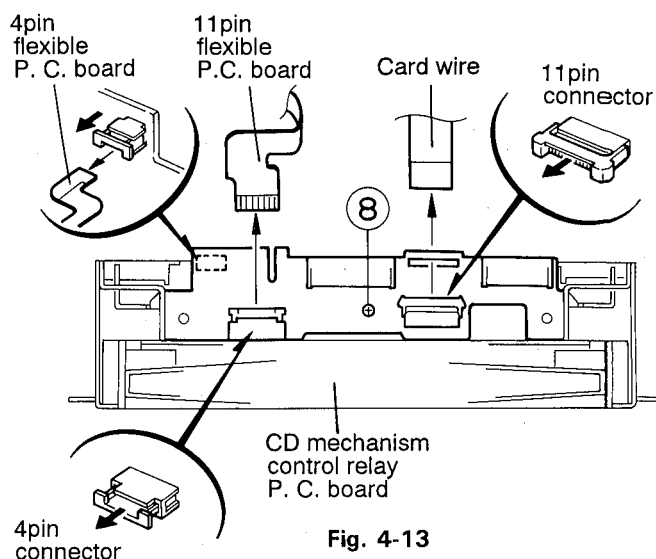

Fig. 4-13
1. While moving the connector in the arrow direction as shown in Fig. 4-13, remove the 11, 4 pin flexible P.C. boards so carefully as not to damage or bend the boards.
2. From the CD mechanism control relay P.C. board, remove the card wire in the arrow direction (See Fig. 4-13).
3. Remove the screw (8) retaining the CD mechanism control relay P.C. board (See Fig. 4-13).
10. Attach the CD control relay P.C. board (See Fig. 4-13).